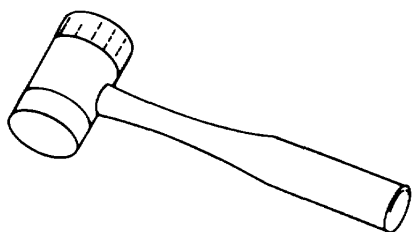

Figure 4-5. Lead or Copper Hammer
(5) Lead or copper hammer. The lead or copper hammer is usually used for aligning steel surfaces. Atypical hammer of this type is shown in figure 4-5. The working surfaces of this hammer can be filed to restore even faces.